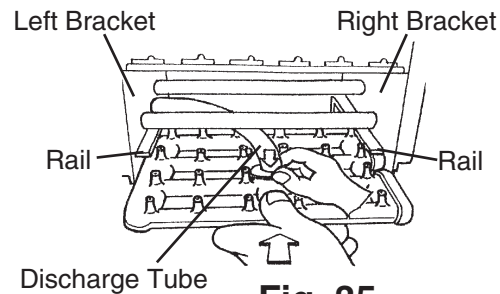

Fig. 35
12) Slide in the spray assembly along the rails on the left and right brackets. See Fig. 35. Connect the discharge tube securely to the spray assembly; a loose fitting may cause a water leak.